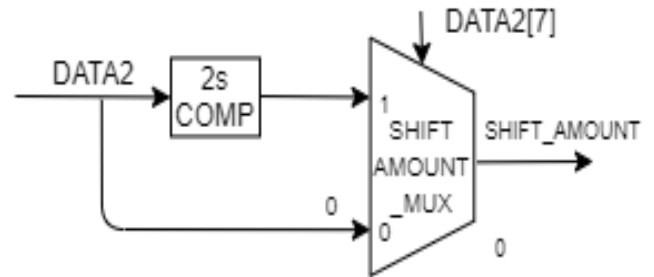

Figure 4: Circuit to get the shift amount
2. Since the shift amount (DATA2) is negative for the arithmetic shift, a 2s complement component is used to get the positive value of the shift value if the shifting is arithmetic. The MUX module along with the 2s complement component shown in figure 4 is used for this task. The select signal is DATA2[7].